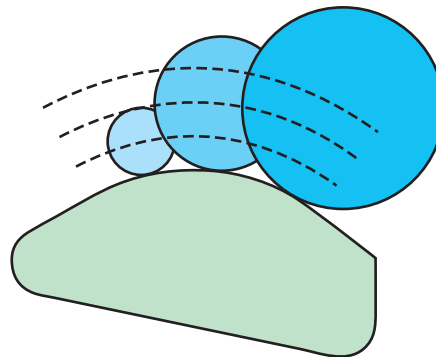

Figure 20-14 For outside shapes with no coves, any cutter diameter is able to produce good results if the program is compensated.
- If there are no internal coves within the part shape, any cutter larger or smaller will work (Fig. 20-14) as long as the program is cutter compensated.